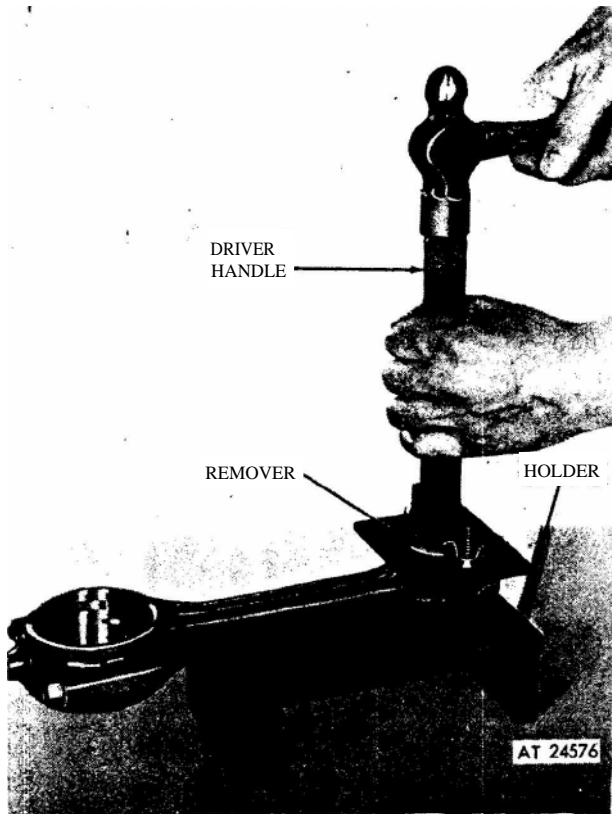

Figure 4. Removing or installing bushings.
1. Clamp the upper end of the connecting rod in holder J 7632 as shown in figure 4, so that the bore in the bushings is aligned with the hole in the base of the holder.
3. Insert installer J 4972-2 in the bushing; then, insert handle J 1513-2 in the installer and drive the bushing into the connecting rod until the flange of the installer bottoms on the connecting rod, as shown in figure 4.